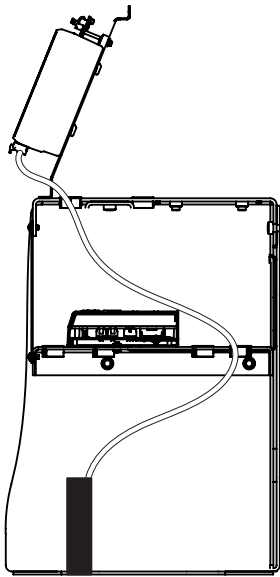

Figure 47. Route Relay Wires
2. Route the relay wires to the SmartCNX Controller (Figure 47).